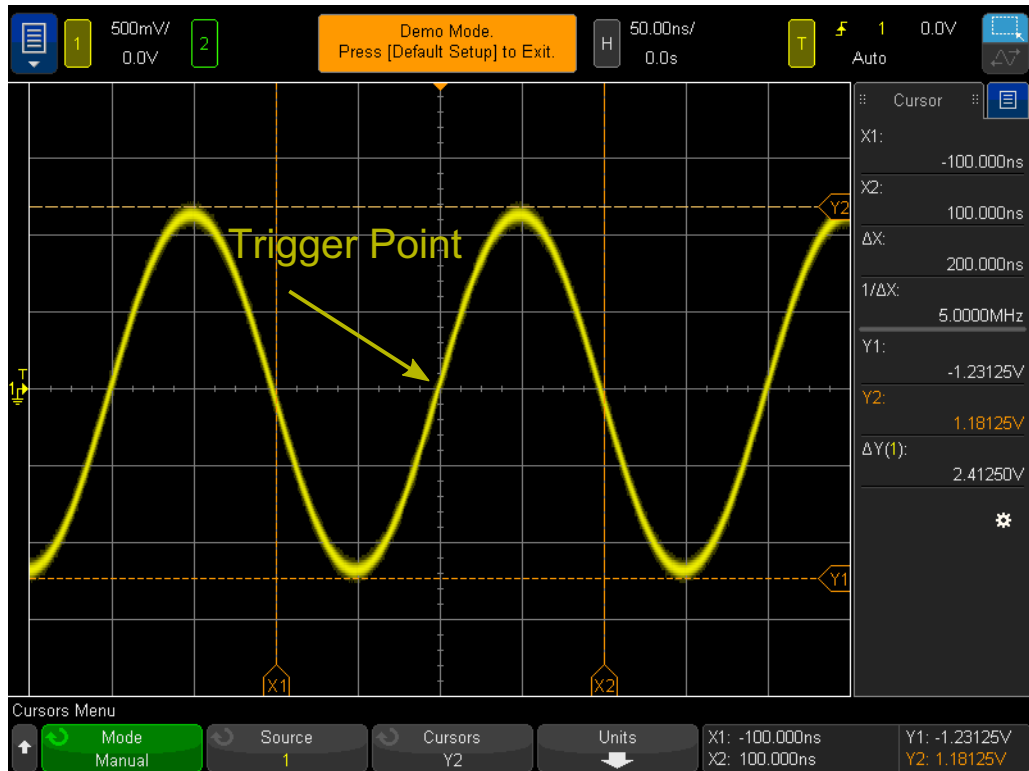

Figure 12 Using the scope's cursor measurements
Let's now use the scope's "cursors" function to make these same voltage and timing measurements; but without having to count divisions and then multiply by scaling factors. First, visually locate the **[Cursors]** button in the Measure section of the front panel as shown in **Figure 12**.
- 23** Your screen should now be similar to **Figure 12**, What are the period, frequency, and peak-to-peak voltage of this signal (cursor read-out is on the right-hand side of the display)?